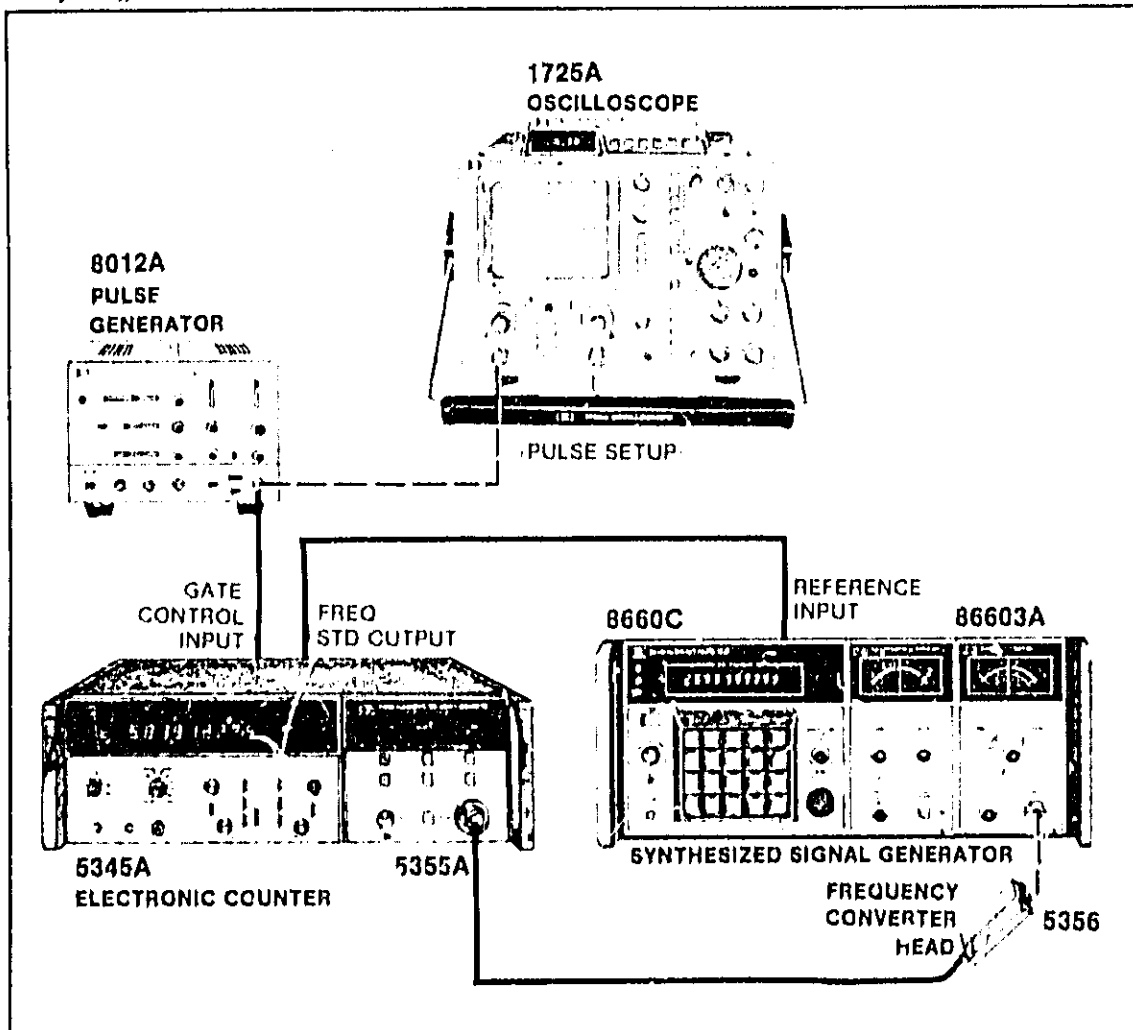

Figure 4-18. 5345A Accuracy Test, Pulsed RF Mode Setup
- a. Set up the test equipment as shown below (Figure 4-18) and allow a few minutes for warmup.
Setup: Figure 4-18.